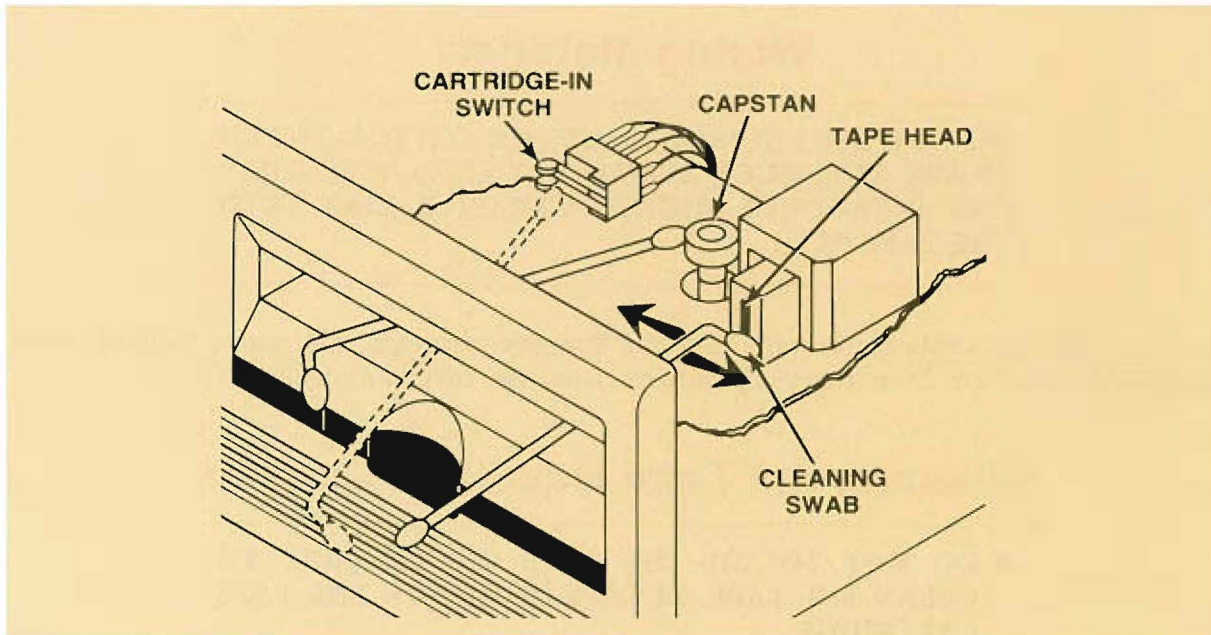

Figure 10. Tape Head and Capstan Cleaning
The tape head and capstan can be reached for easy cleaning. To do this, the drive must be powered on. Then, reach in through the tape cartridge slot with a cleaning swab and depress the Cartridge-In switch. (See Figure 10, Tape Head and Capstan Cleaning.) The Cartridge-In switch is the lower of the two switches located at the left rear of the tape cartridge cavity. Press the switch for approximately 1 second and then release it. This will cause the tape head to rise. It will be necessary to press the Cartridge-In switch twice to raise the head up far enough to fully clean it. Pressing the switch for longer than 3 seconds will cause the tape drive to think that a cartridge has been loaded and a load sequence will begin. If this happens, cycle the power off and on again and repeat the head raising procedure.
- d. While applying pressure in the direction of the tape path, clean the tape head and capstan as shown in figure 10. Be sure to clean the tape head with a side-to-side motion of the cleaning swab.